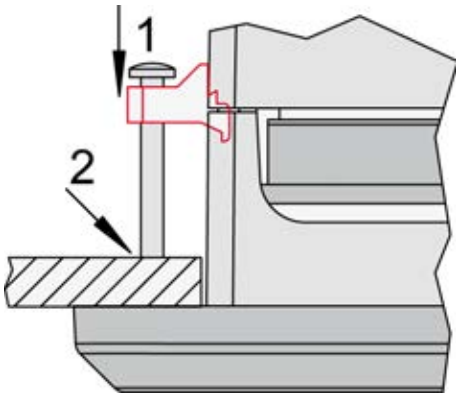

Fig. 12: Tighten clamping screws
6. → Tighten the clamping screws (Fig. 12/1) until the control unit is secured to the control panel (Fig. 12/2). Over tightening of these screws may result in the clamp inserts or the housing breaking. Do not exceed the recommended tightening torque of 0.1 Nm.